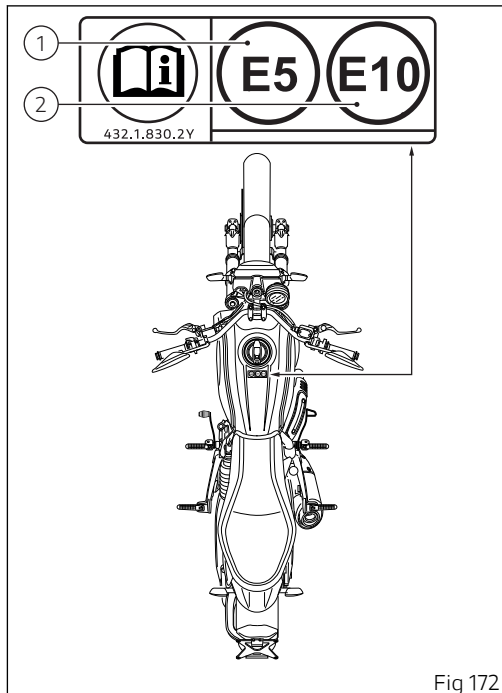

Fig 172
The label in (Fig 172) identifies the fuel recommended for this vehicle.
- 1) The E5 reference inside the label (Fig 172) indicates the use of fuel with a maximum oxygen content of 2.7% by weight and a maximum ethanol content of 5% by volume, according to EN 228.
- 2) The E10 reference inside the label (Fig 172) indicates the use of fuel with a maximum oxygen content of 3.7% by weight and a maximum ethanol content of 10% by volume, according to EN 228.